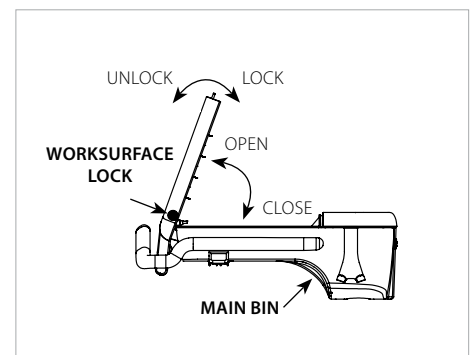

Figure 2
2. To open the **WORKSURFACE**, insert the key (provided by Amico) into lock on the **WORKSURFACE** and turn counter-clockwise (CCW) to unlock the **WORKSURFACE** (**Figure 2**).